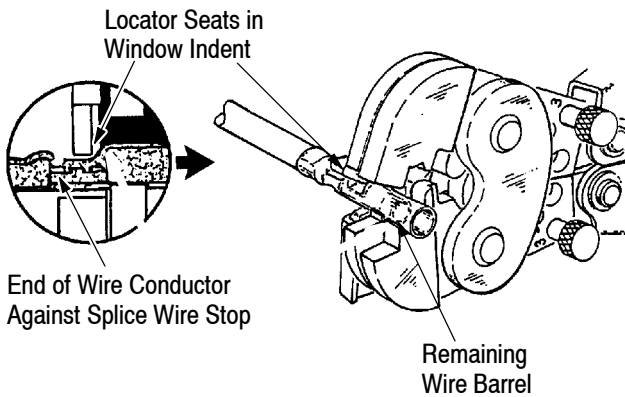

Figure 5
- Place the terminal or splice in the crimping chamber as shown in Figure 4 (for terminals) or Figure 5 (for splices).
- Insert a properly stripped wire into the wire barrel as shown in Figure 4 (for terminals) or Figure 5, Detail A (for splices).
9. For splices, position the remaining wire barrel in the crimping chamber as shown in Figure 5, Detail B. Repeat Steps 5 through 8.